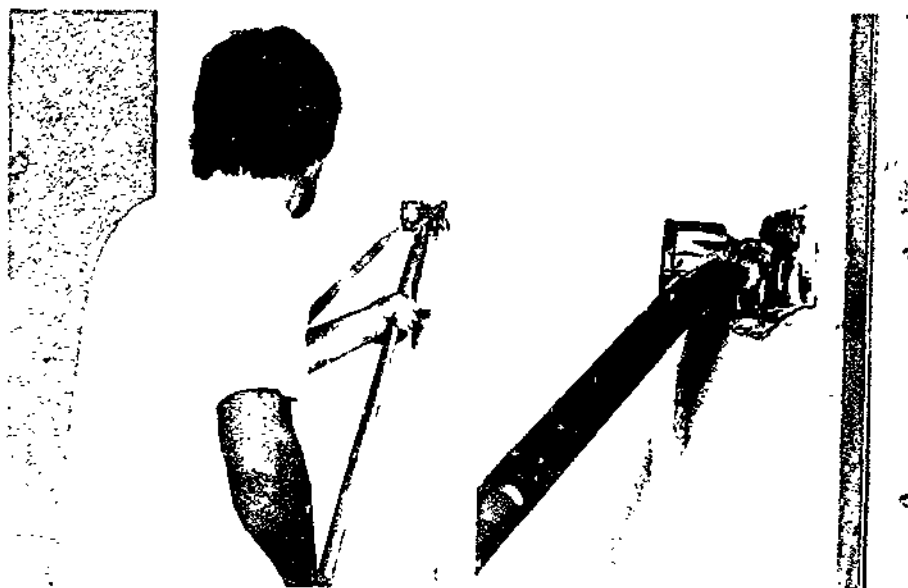

Figure 4-37
- 3 Push the flusher into the angle very lightly and lift it up the angle (Figure 4-37). You can increase the pressure as you go up the angle as there will be less danger of the tape dragging. Move the flusher to the ceiling in one motion.